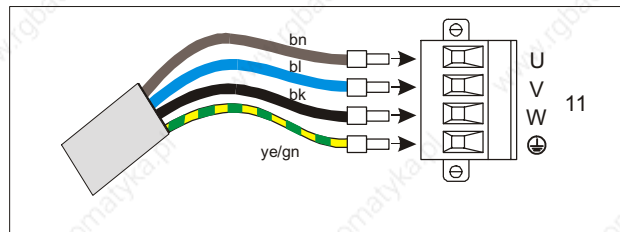

Fig. 6-2 Motor connection
1. Release the two screws and remove the connector (fig. 6-2) from the unit.